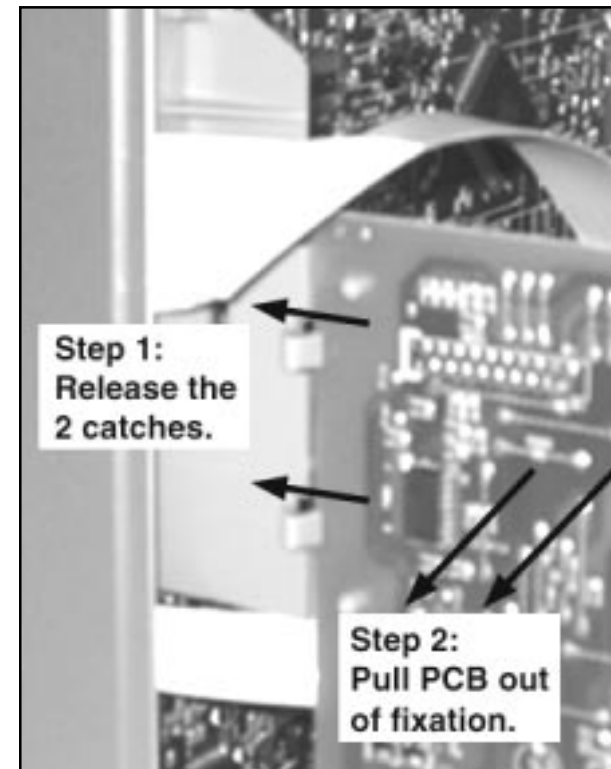
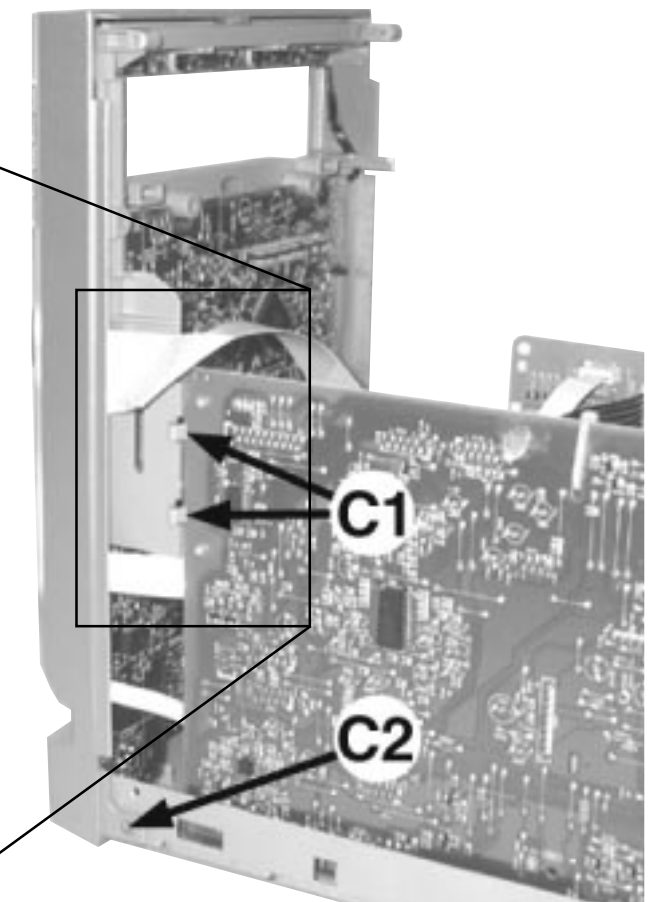

Figure 6
Figure 5
- 2) Release the fixation of the Combi Board (pos 1102-1003) to Bracket Combi (pos 252) by releasing the 2 catches C1 (see Figure 5) and pulling the Combi Board outwards as shown in Figure 6.
- 3) Uncatch 2 catches C2 (see Figure 5) on the left & right sides of the Cabinet Front (pos 101) and slides the Front Panel assembly out towards the front.